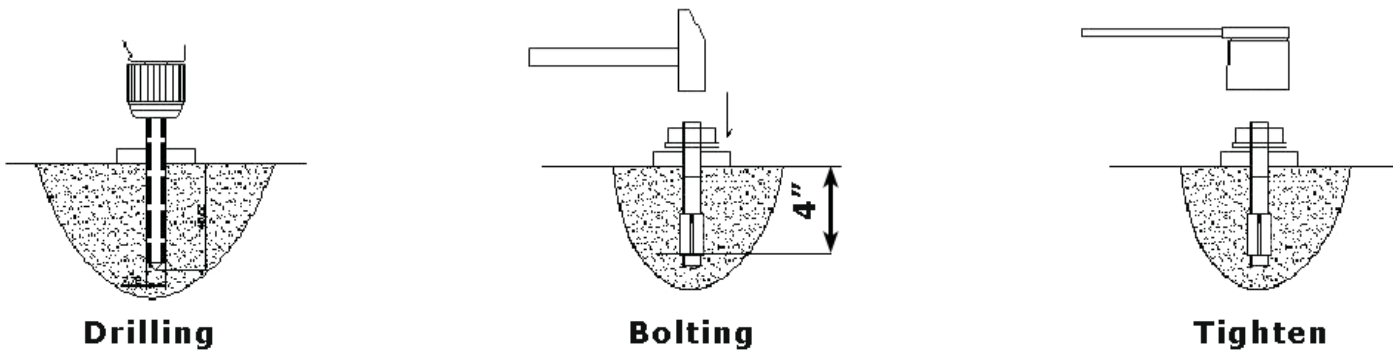

Fig. 22
2. Using the rotary hammer drill, drill all anchor holes and install the anchor bolts. Make the columns plumb and adjust with the shims if not. Then tighten the anchor bolts (See Fig. 22).